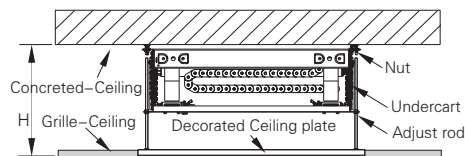

Figure 3 Standard ceiling installation
A. If  $H < H1$  (Supposed it's Maximum H2), can install project lift on the Concreted–Ceiling directly. Check Figure 3.